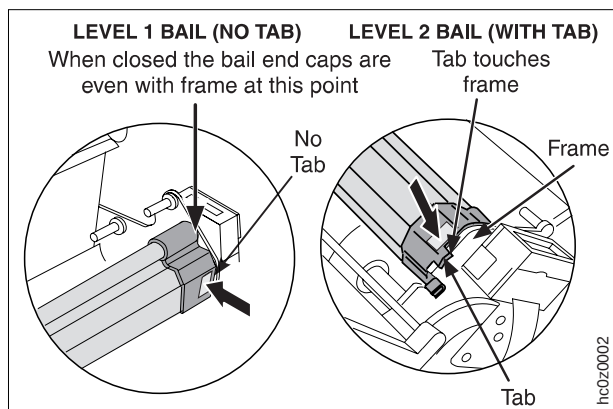

Figure 157. Correctly Positioned Paper Bail (Level 1 and Level 2)
1. Power off (O) the printer.
4. Note the position of the paper bail (assembly). Use Figure 157 as a reference.
A paper bail without tabs on the end caps must be installed in the “closed” position. See Figure 157 on page 423.